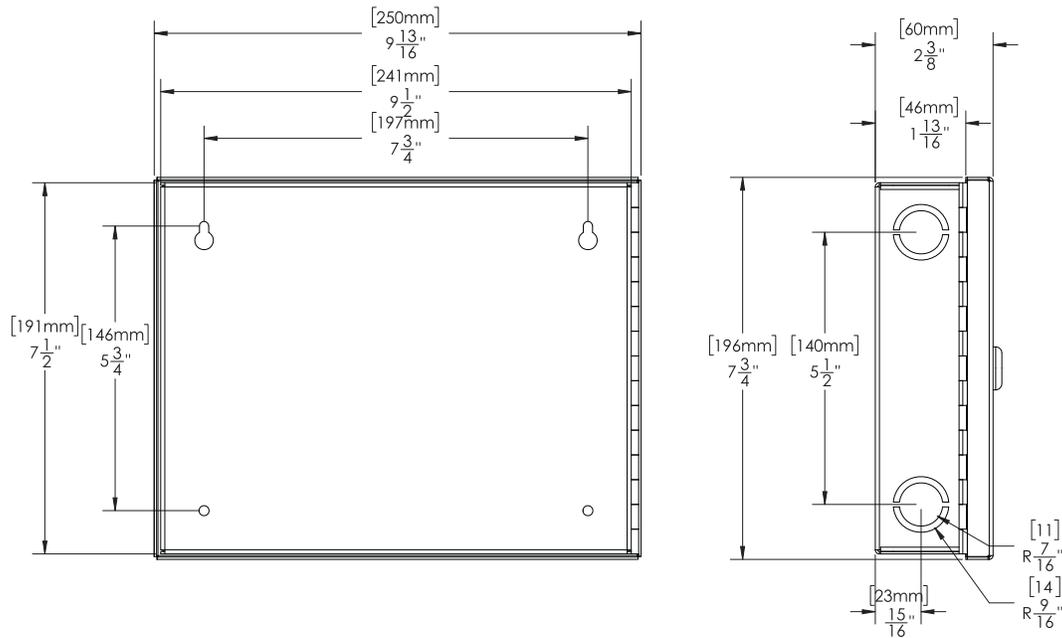

Figure 39. TX3-PS24-5A dimensions
2. Using the enclosure as a template, mark the two top mounting hole locations as indicated in Figure 39. Ensure that at least one side is over a wall stud.